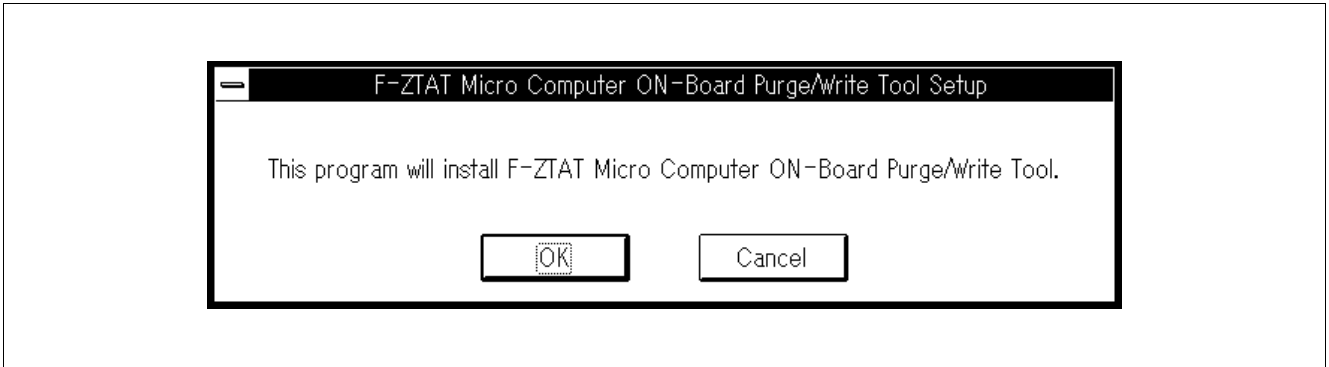

Figure 2-1 Installation Start Message
3. The message shown in figure 2-1 is displayed. Select [OK] to continue installation, or select [Cancel] to abort installation.